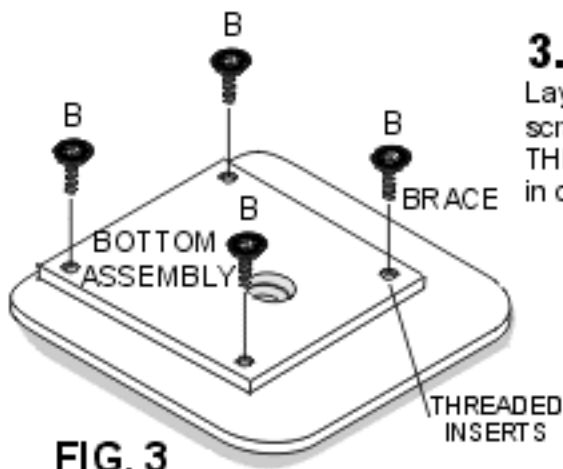

FIG. 3
Lay **BOTTOM ASSEMBLY** (assembly fitting side down) on a flat, non-scratch surface. FIG 3 Install (4) **LEVELER LEGS** into factory installed **THREADED INSERTS** on underside of **BOTTOM ASSEMBLY** by turning in clockwise direction. **DO NOT OVER-TIGHTEN LEVELERS.**